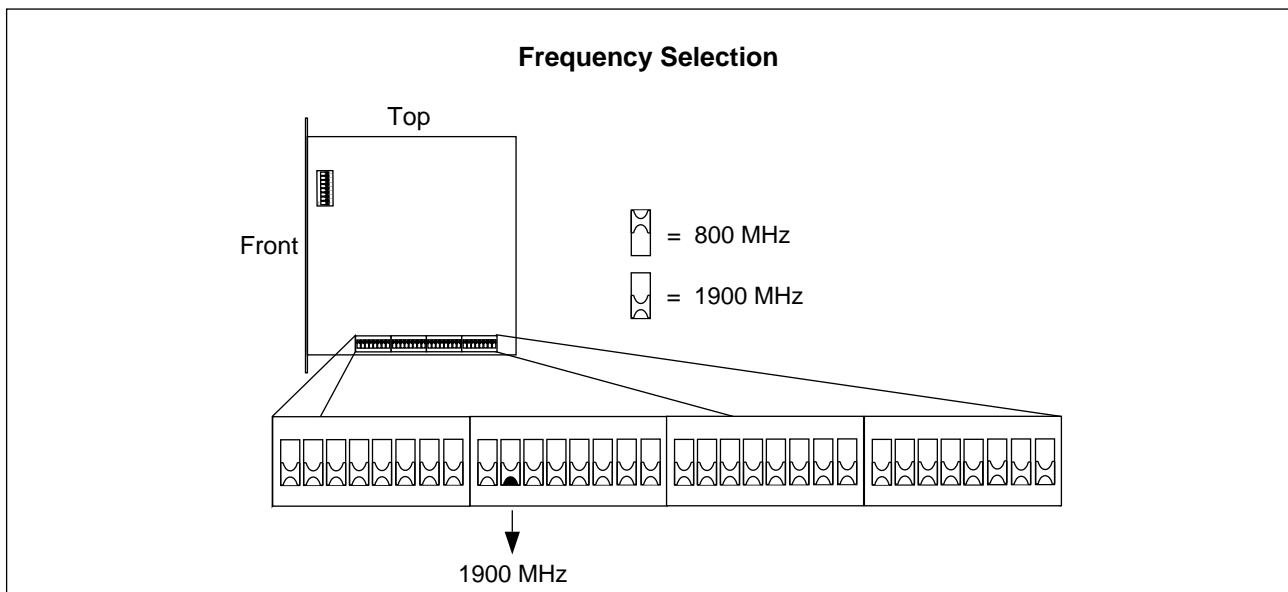

Figure 4-32. Setting the Frequency of Operation
14. Set the frequency of operation for 1900 MHz as shown in Figure 4-32 on page 4-49.